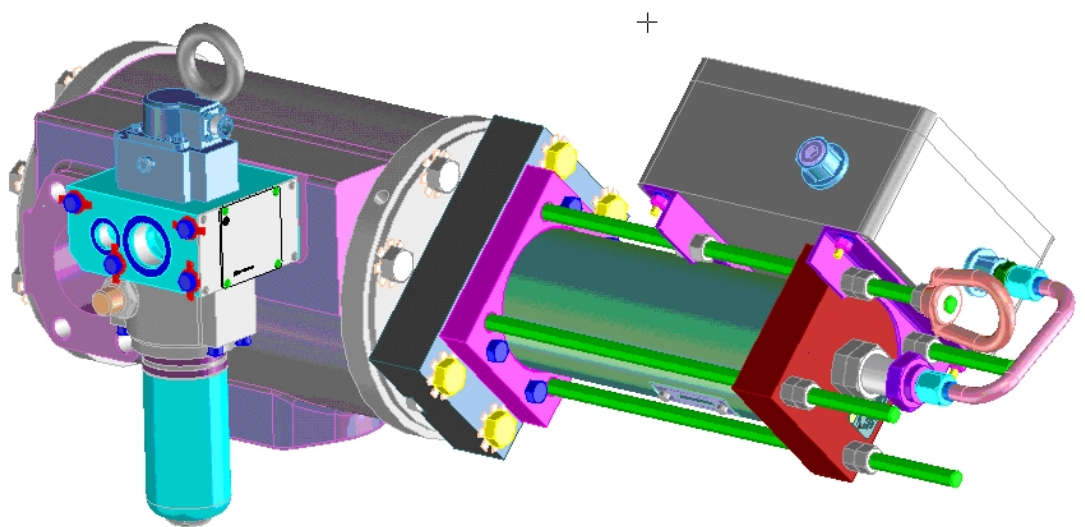

Figure 1-1. HPI Installation Location
Although the HPI will fit on either end of the Bypass Control Valve, it must be attached to the Turbine Port and hydraulic block end in order to retain the correct valve response on loss of hydraulic supply pressure and to have the correct polarity. See Figure 1-1 below for HPI installation location.
1. Remove the “Fuel Drain” tubing and the 0.438-20 (SAE – 04) fitting from the end cap on the Turbine port and hydraulic block end of the valve (see Figure 1-1 above). This tubing will need to be modified to fit the relocated “Fuel Drain” port and must be out of the way to install the HPI.